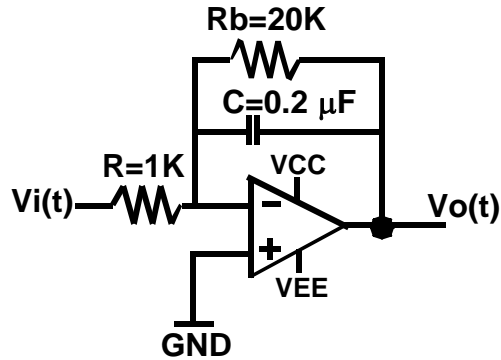
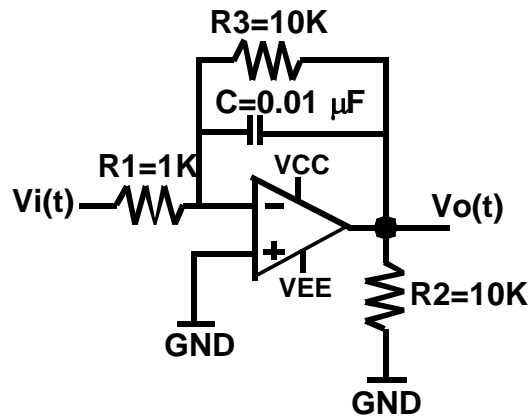

Figure 4. Integrator with shunt resistor.
Figure 5. A low-pass filter.
For the circuit in Figure 4, assuming the opamp is ideal, answer the following questions:
For the circuit in Figure 5 assume the opamp is ideal. The input signal is:
2. From item 1 above, determine the circuit gain  $|V_o(j\omega)/V_i(j\omega)|$  in terms of input frequency  $\omega$  and circuit components R and C? Do **not** use any numerical values.
3. Using the numerical values of R and C as shown in Figure 5, plot the circuit gain  $(|V_o(j\omega)/V_i(j\omega)|)$  using the technique described in the Discussion section. Plot the gain over the frequency range 1Hz to 100KHz. Be sure to plot vs Hz, not rad/sec.
5. If the input signal has a low frequency ( $\omega \rightarrow 0$ ), what is the expected gain from these plots in items 3 and 4 above? If the input signal has a high frequency, what is the expected gain from these plots? Based on these gain values, explain why the circuit is named “low-pass” filter.
6. Note that this circuit is topologically similar to the integrator circuit in Figure 4. Explain why these two types of circuits are similar. Compare the phasor domain circuit gain magnitudes  $(|V_o(j\omega)/V_i(j\omega)|)$  of these two circuits side-by-side.
1. Build the circuit in Figure 4 with power supplies  $\pm 12$  V. Apply a sine wave input signal with amplitude 300 mVpp (-150mV to 150mV) and frequency 300 Hz. Display the input signal on channel 1 of the oscilloscope.
5. Repeat item 4 above using a triangular input signal with same amplitude and frequency. Turn this hardcopy in as part of your lab report.
6. Now change the input back to a sine wave as in item 1. Remove the resistor  $R_b$ . What happens to the output signal? Explain the phenomenon you observe on the oscilloscope. Re-insert the resistor  $R_b$  and verify that the circuit functions as designed. Be sure the coupling mode for the channel used to measure the output signal is set to DC coupling mode.
1. Build the circuit in Figure 5 with power supplies  $\pm 12$  V. Use a sine wave of amplitude 100 mV as an input signal (see item 2 below for frequency) and display both the input and output signals on the oscilloscope (2 to 3 complete cycles).